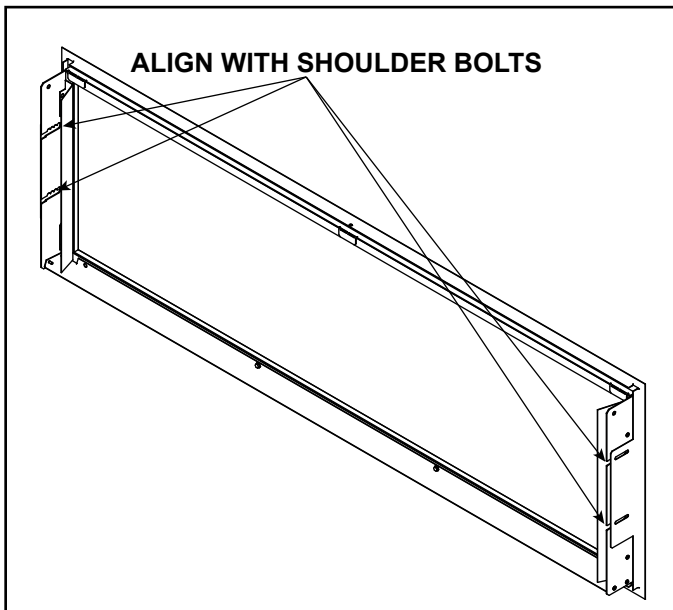

Figure 9. Align Slots with Shoulder Bolts
9. Hang the decorative front by aligning the slots on the bracket on the back of the decorative front with the four shoulder bolts now installed on the appliance. See Figure 9. Push decorative front toward the appliance until it is flush with the installed trim ring.